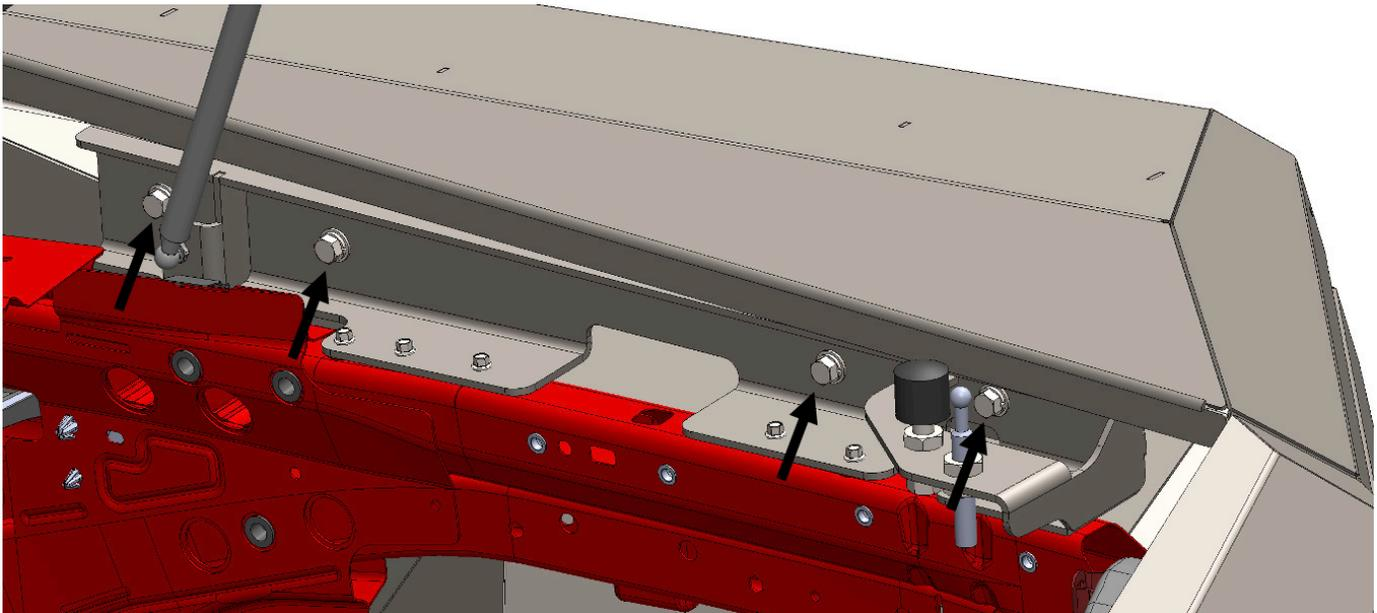
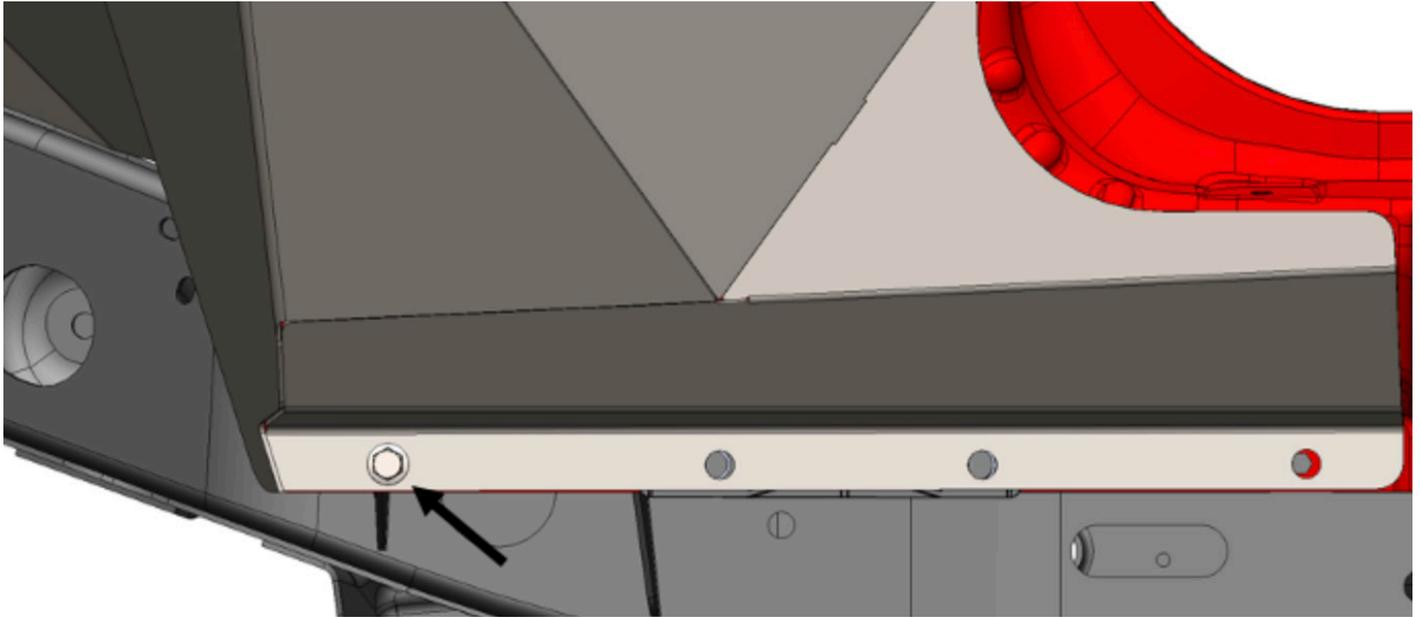

Figure 29
Figure 30
25. With assistance; hold front quarter panels (22767 and 22768) up to the mounting and use the provided four (4) 3/8" hex head bolts with washers to fasten them in place (Figure 29). Use one (1) OEM 10mm flange bolt to fasten the lower section to the pinch seam (Figure 30).